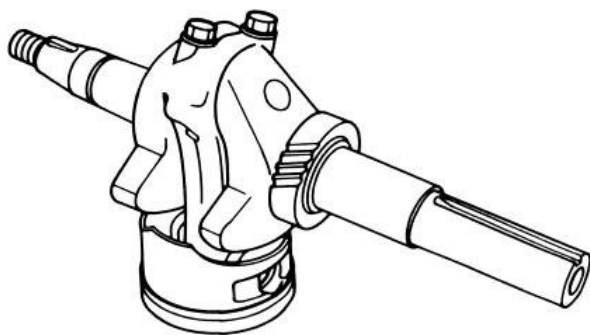

Figure 4-42: Measure Connecting Rod Oil Clearance
2. See Figure 4-42. Place a piece of Plastigauge® on the crankshaft rod journal, assemble the connecting rod and tighten the bolts to 10~11 ft-lb (13~15 Nm).